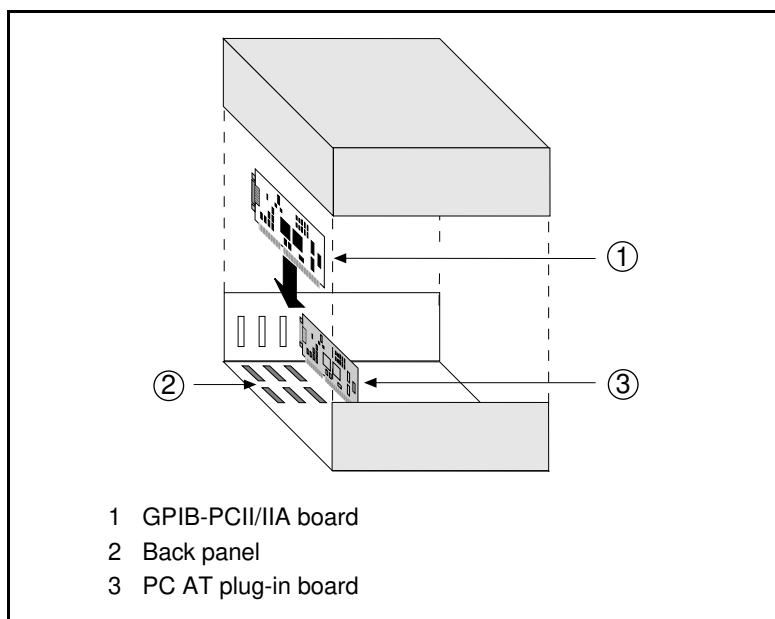

Figure 2-1. Installing the GPIB-PCII/IIA
5. Insert the GPIB-PCII/IIA into any unused slot with the GPIB connector sticking out of the opening on the back panel, as shown in Figure 2-1. It might be a tight fit, but do not force the board into place.